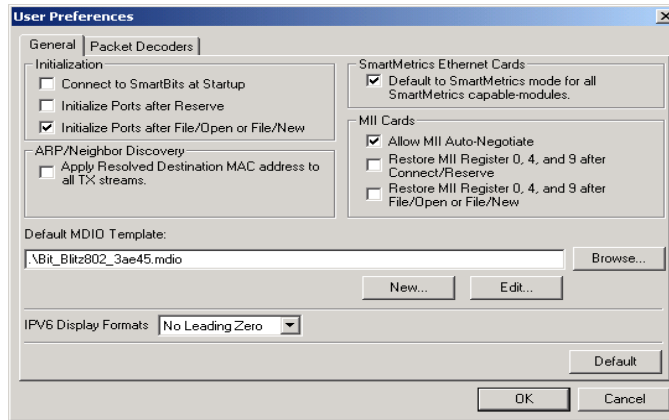

Figure 7-17. User Preferences Window
- 2 Access the **User Preferences** window from *Actions* on the main toolbar. (See Figure 7-17.)